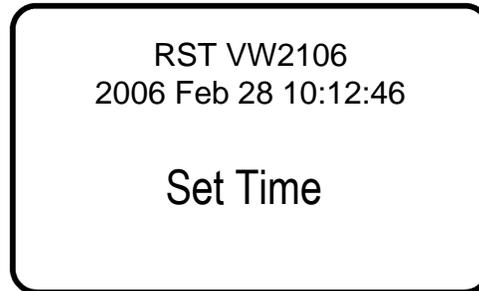

FIGURE 4-1 SET TIME SCREEN
2. Scroll to the **Set Time** screen (Figure 4-1) using the up/down arrows and press 'Enter'.